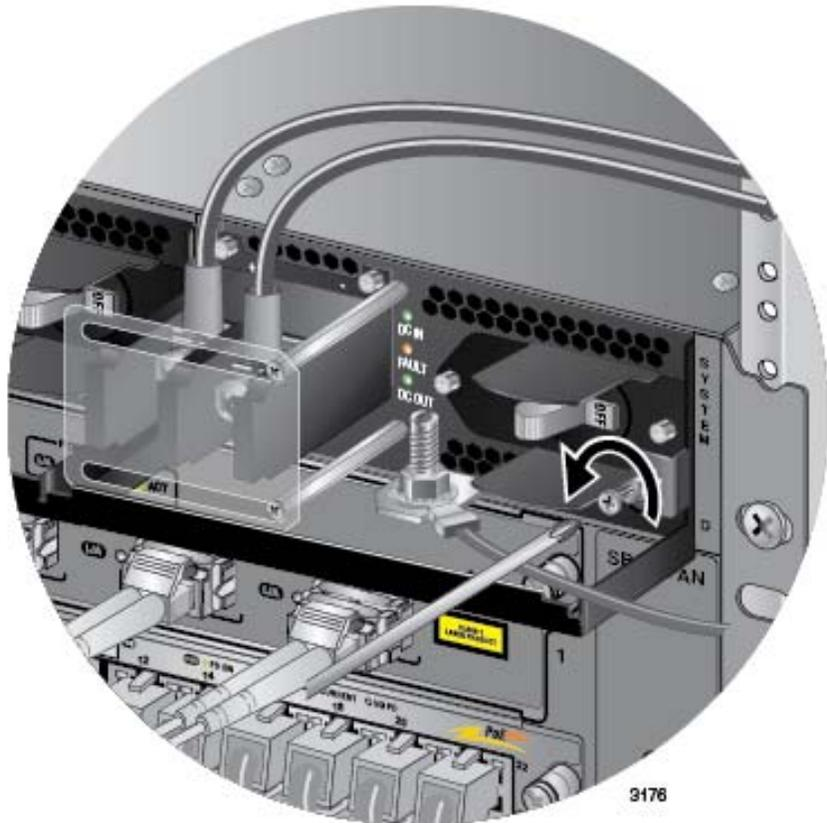

Figure 150. Loosening the Screw on the Locking Handle
3. Use a #2 screwdriver to loosen the screw on the locking handle. Refer to Figure 150 on page 239.